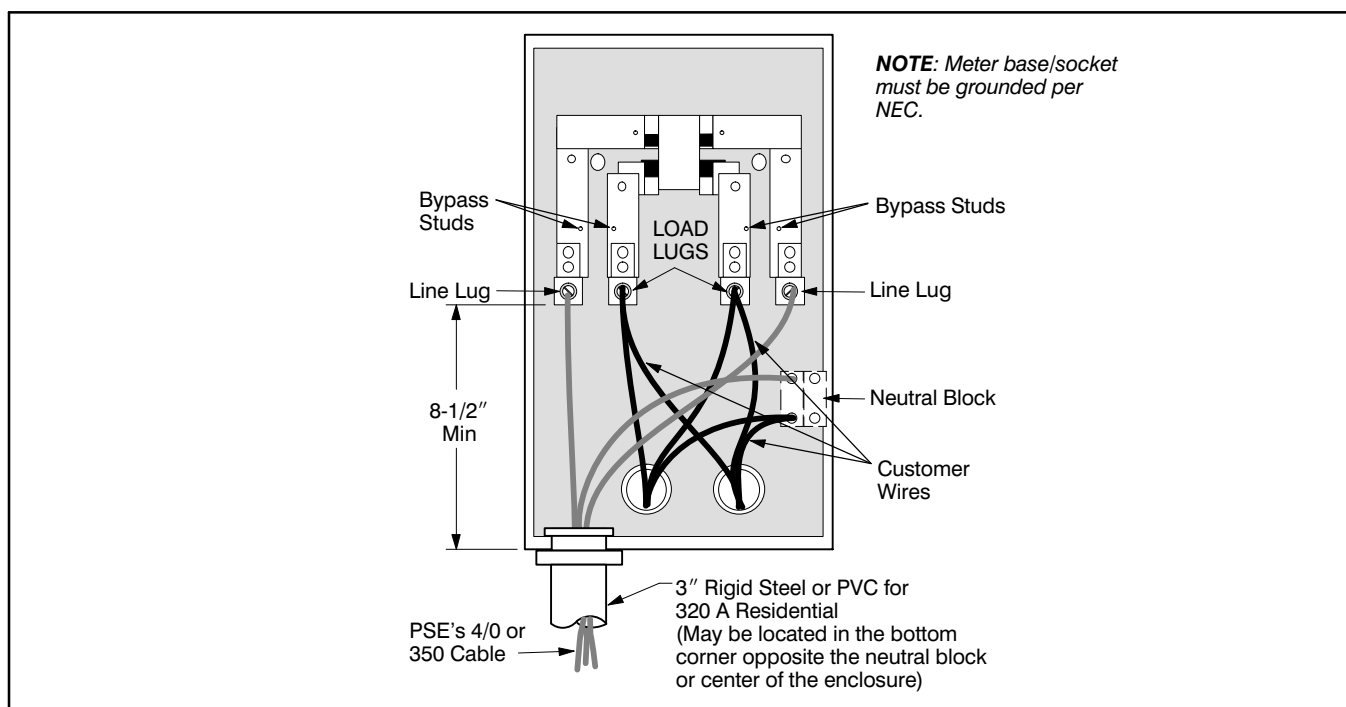

Figure 28 Typical arrangement of service conductors for underground class 320 meter base/socket
The meter base/socket required for a 120/240 V, 400 A service is called a Class 320 meter base/socket (see *Figure 28* and *29*). It is larger than the 200 A meter base/socket, but it is still a *self-contained* meter base/socket. It can be installed on residences where the continuous current rating is 320 A or less.
- Contain a Class 320 *manual block bypass* (see *Figure 28*).
- Have at least an 8-1/2-inch clearance between the bottom of the lugs and the bottom of the enclosure (see *Figure 28*).